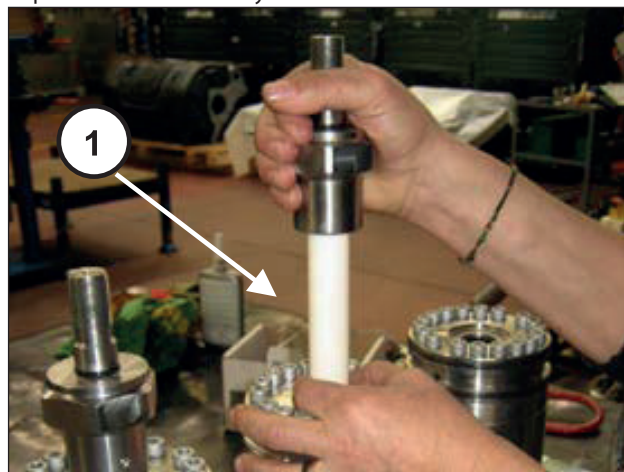
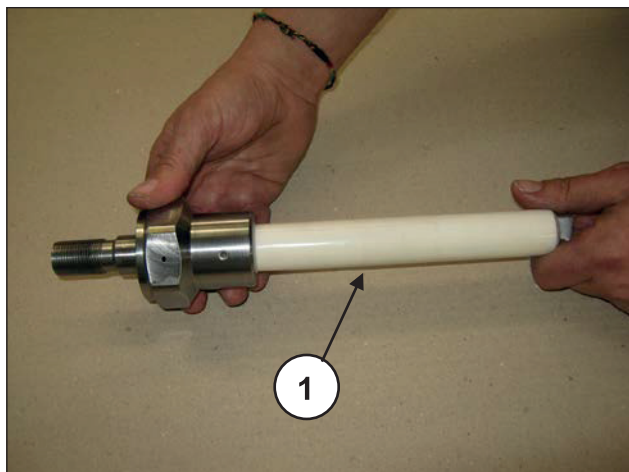

Fig. 186
Fig. 187
Remove the pumping units from the liners by hand (pos. ①, Fig. 186) and check for wear (pos. ①, Fig. 187).